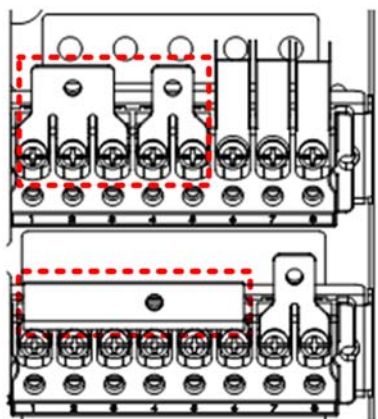

Figure 8-11 3-in 1-out, common input configuration (2)
b) Install the copper shorting bars on the input terminals (mA, bA, bB, bC), and use the output shorting copper bars to connect the output terminals (oA, oB, oC) together. See Figure 8-11.